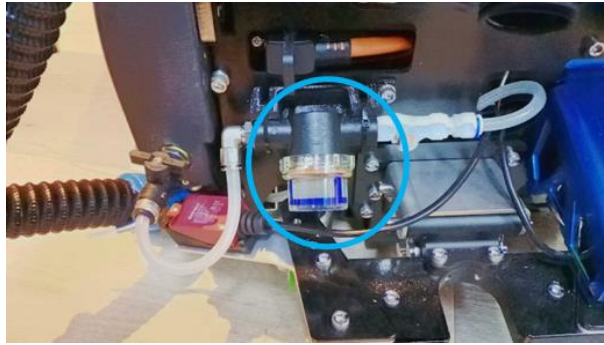

FIGURE 11-4
2. Unscrew the water filter (Fig 11-4).